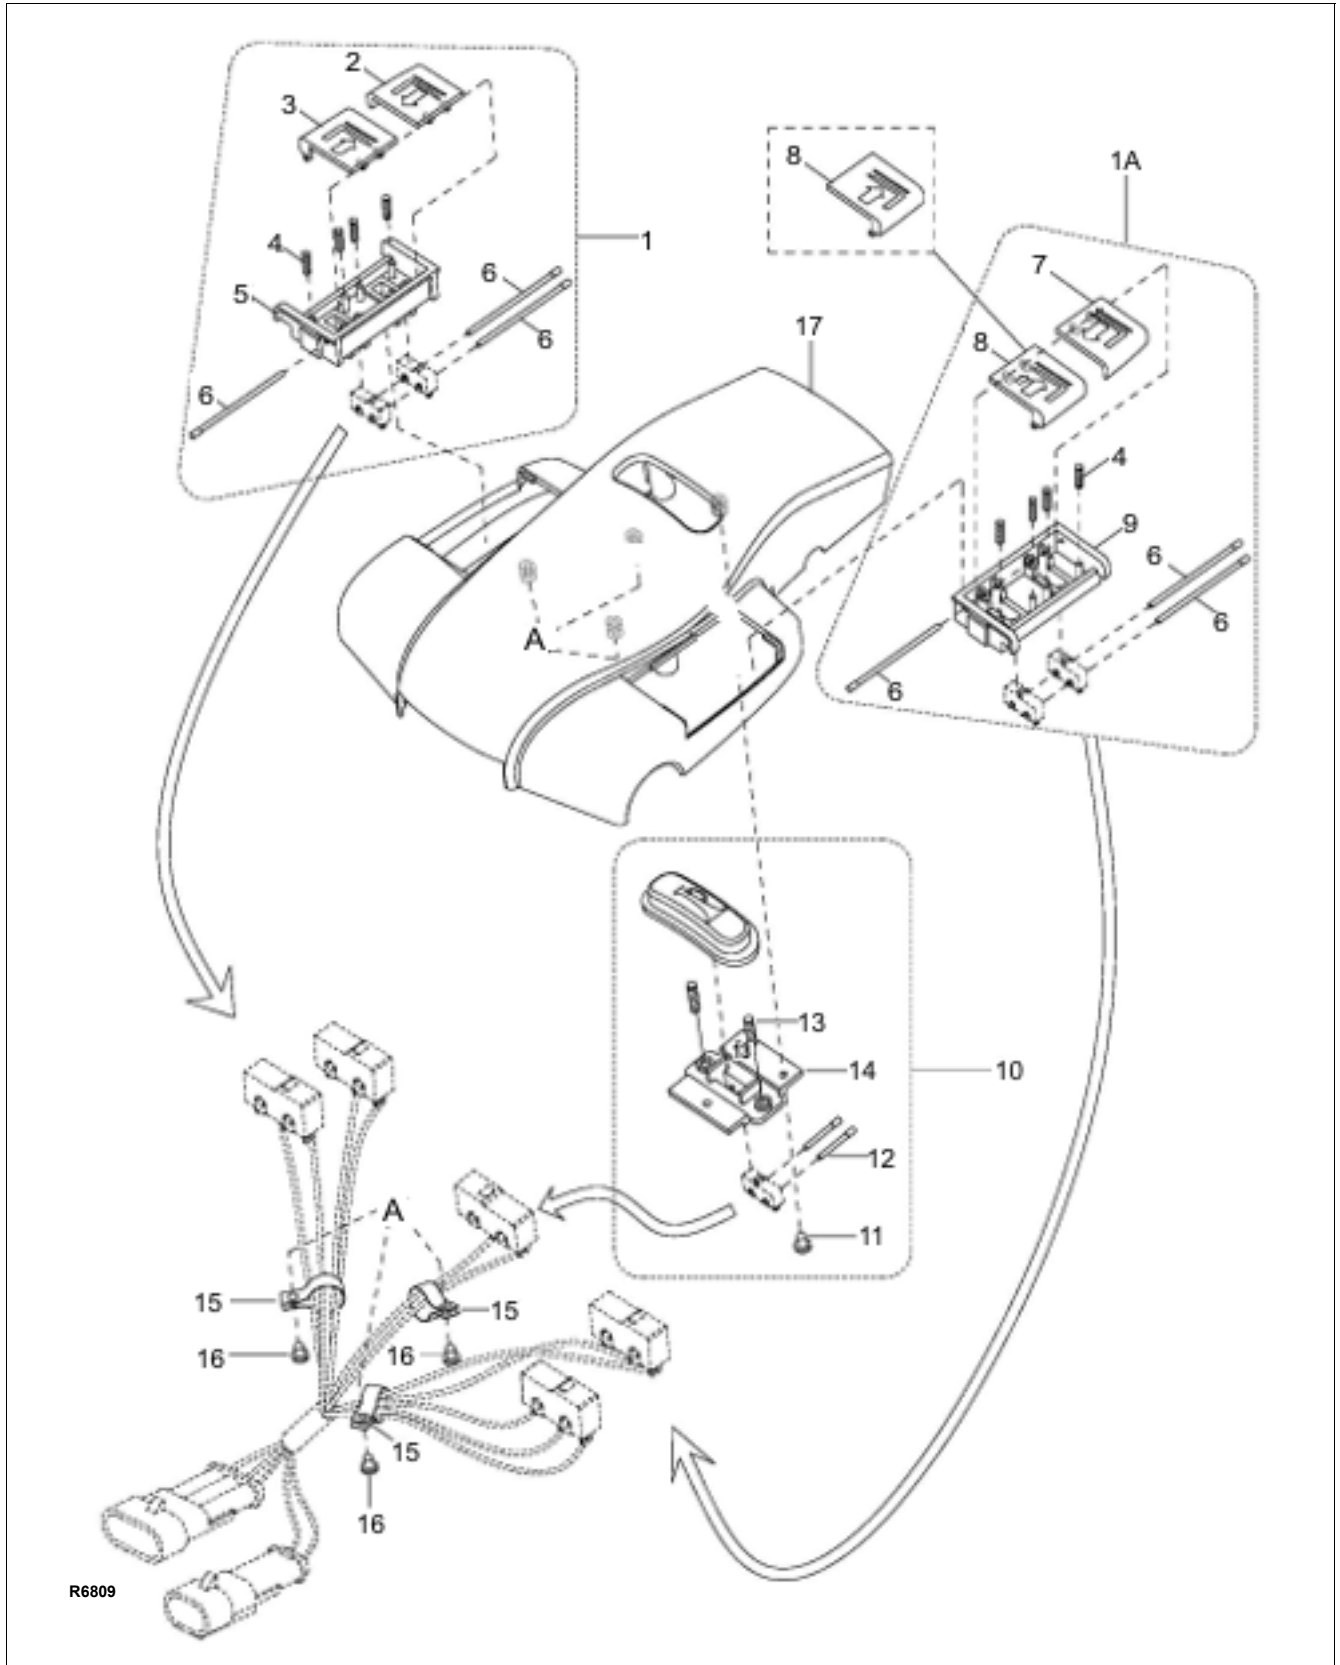

Figure 5-4 Cap Assembly
2. Remove three screws (11, Figure 5-4), bracket (14) and springs (13).
3. Remove two pins (12) and defective switch from bracket (14).
5. Position the new switch in bracket (14) and secure with two pins (12).
6. Position bracket (14) in cover (17) and secure with three screws (11).
2. Remove switch assembly (1 or 1A, Figure 5-4) from cap (17).
3. Remove pin (6) securing buttons (2 and 3 or 7 and 8,) and remove the buttons.
4. Remove two pins (6), two switches and four springs (4) from bracket (5 or 9).
7. Position the new switches and four springs (4) in bracket (5 or 9) and secure with two pins (6).
8. Position switch assembly (1 or 1A) in cover (17) and secure with pin (6).